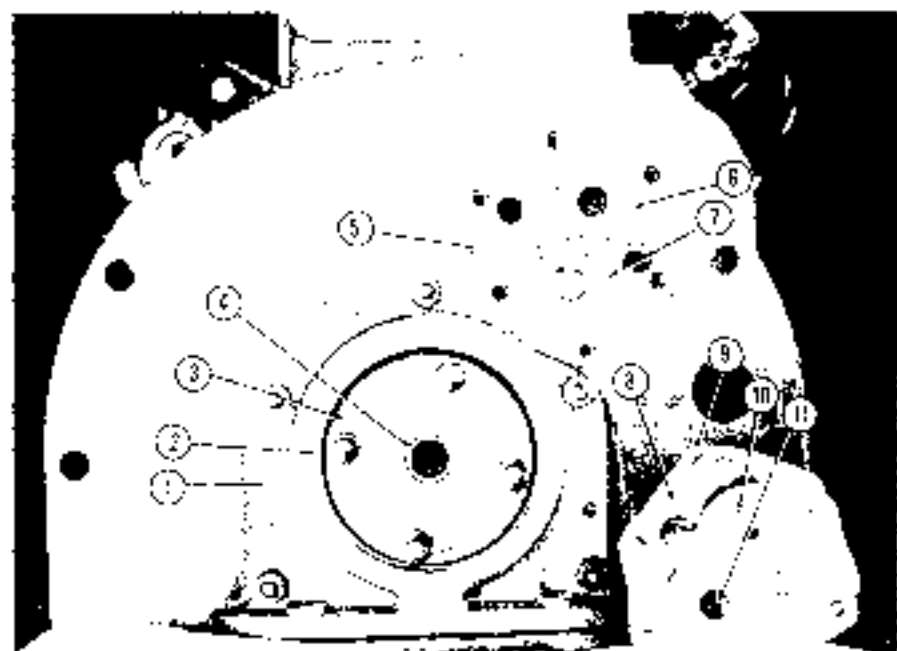

Fig. MH11—Continental No2 oil pump assembly and crankshaft rear oil seal. Repairs on these units require removal of clutch and flywheel.
25. Crankshaft rear seal is a spring-loaded type, pressed into a retainer which is fastened to the rear of cylinder block as shown in Fig. MH11.
28. Pump is located on the rear exterior surface of cylinder block as shown in Fig. MH11. Pump is driven by the crankshaft. Removal of the pump requires splitting the tractor as outlined in Clutch section and removal of flywheel. A 0.007 thick lead gasket (1) is located between pump body (4) and cover plate (3). Between cover plate and engine is a paper gasket made of vegetable fiber over shaft (11) is a press fit in the body. Diameter of new idler shaft is .501. The body bore for drive gear and shaft assembly (7) contains bronze bushing (10), if bushing is worn it is recommended that new pump body wear bushing be installed. Diameter of new drive gear shaft is .263. Thickness of new drive gear or idler gear is .213. Check pump for good condition which should not exceed 0.005. Gaps in screw-in type side clearance should not exceed 0.005.